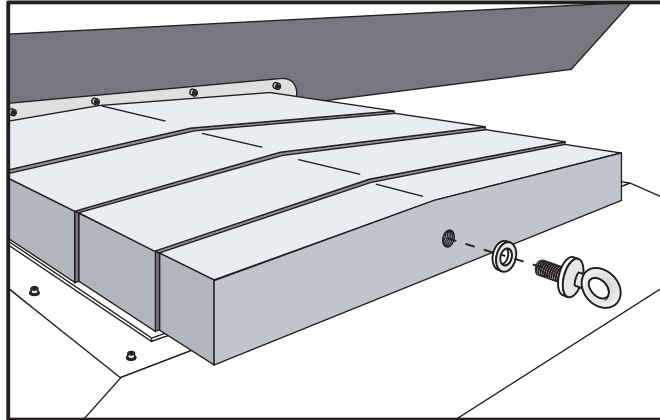

Fig. 12.26-1 Eyebolt mounting location for VF-0, VF-1, and VF-2.
1. Place a washer on the 5/8"-11 x 1 1/4" eyebolt and mount it to the front Y-axis way cover, as shown in Figure 12.26-1. Hand tighten and orient the bolt **vertically** as shown.